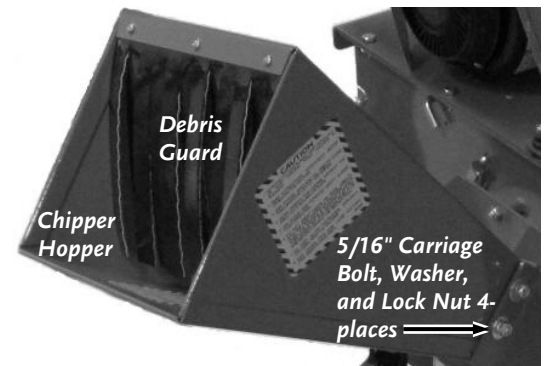

Figure 7
Tip: Insert a towel or large rag into the opening to keep the Bolts from falling into the Chipper. Position the Hopper as shown in Figure 7 with the Debris Guard hanging down
NOTE: Be sure to insert the Bolts, from the inside of the Chipper Hopper so that the threads are sticking out (**Figure 7**) and the heads are flush against the Hopper. Install the Bolts, Washers and Nuts one at a time.
2. Install a Flat Washer, then a Lock Nut on each Bolt. Initially install the Bolts and Nuts finger tight and then tighten the Nuts one turn using a 1/2" Wrench (**Figure 7**). Check to see that the Hopper is centered on the Inlet Chute and then tighten the Nuts securely.